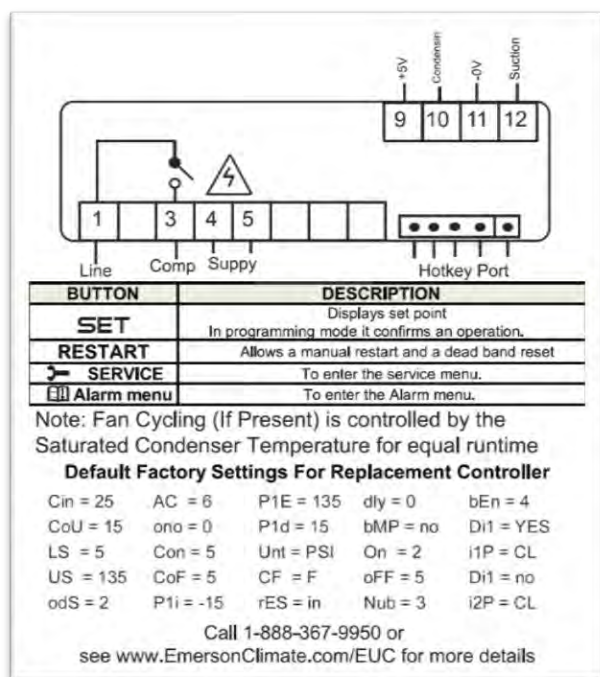

Figure 12 Example of Default Parameters and Schematic on Inside Label
5. Compare displayed values with the values on the provided label (See **Figure 12**).